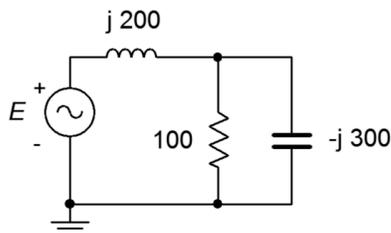

Figure 4.8
9. For the circuit of Figure 4.8, determine voltages across R, L and C if the source is 7 volts RMS.
10. For the circuit of Figure 4.8, determine the source current and the current through each of the three components. Also, draw a phasor diagram of  $E$ ,  $v_L$  and  $v_R$ .
34. Determine the required inductive reactance in Figure 4.8 to shift the capacitor voltage to half of the source voltage.